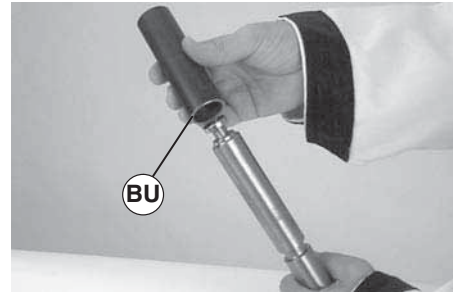

Figure 38
- Slide sleeve (Figure 38, item BU) of tool (part # 456085) over bearing.